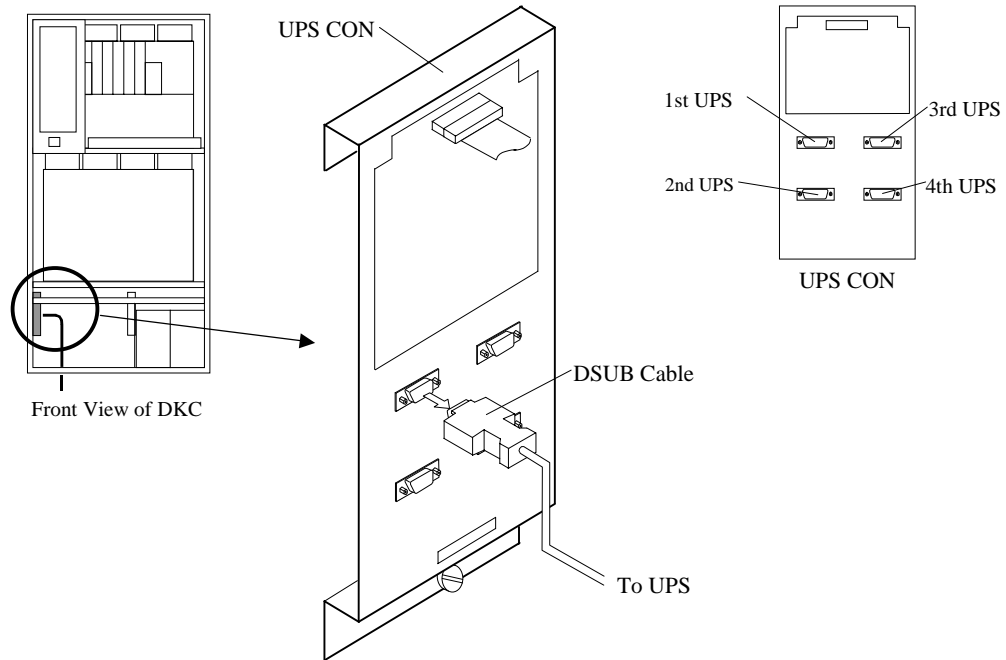

Fig. T27-1 Disconnection of Cables
- a. Connect the DSUB cables to UPS CON. Refer to Fig. T27-1.